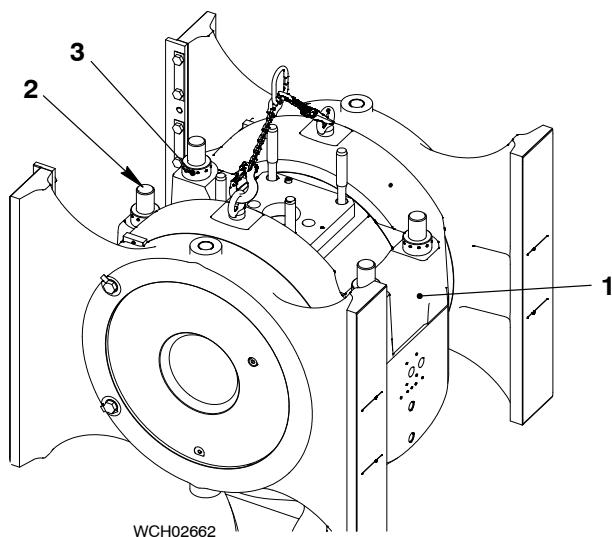

Fig. 6
- 8) Attach the round nuts (3, Fig. 6) to the elastic bolts (2).
- 9) Use the pre-tensioning jack (94315) to tighten the four round nuts (3) refer to 9403-4.